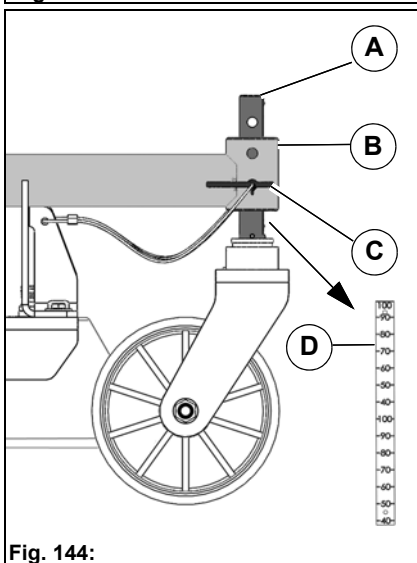

Fig. 144:
2. Pull the mounting bolt **Fig. 144-C** out and push the bolt **Fig. 144-A** of the wheel fork into the bush **Fig. 144-B** of the wheel spar until the wanted cutting height is set. You can adjust the cutting height centimetre by centimetre with the two mounting holes in the bush.
3. You can read off the cutting height on the scale **Fig. 144-D**.